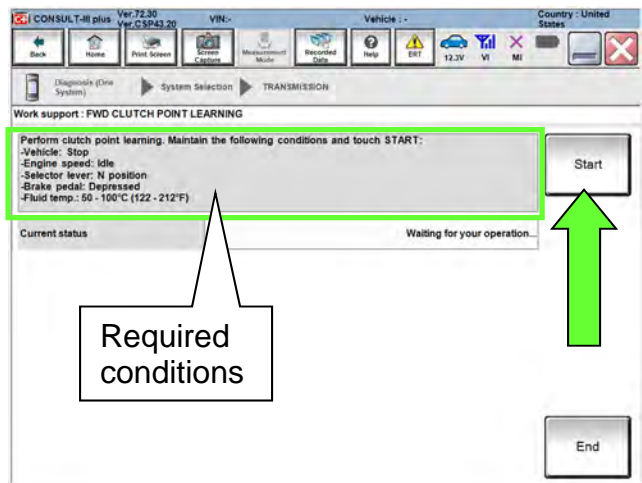

Figure 168
- Confirm that all of the required conditions indicated in Figure 168 are being met.
164. While maintaining all conditions shown in Figure 168 and the “Current status” indicates “EXECUTING”, shift the CVT into **D** and then wait until the “Current status” indicates “COMPLETED”.